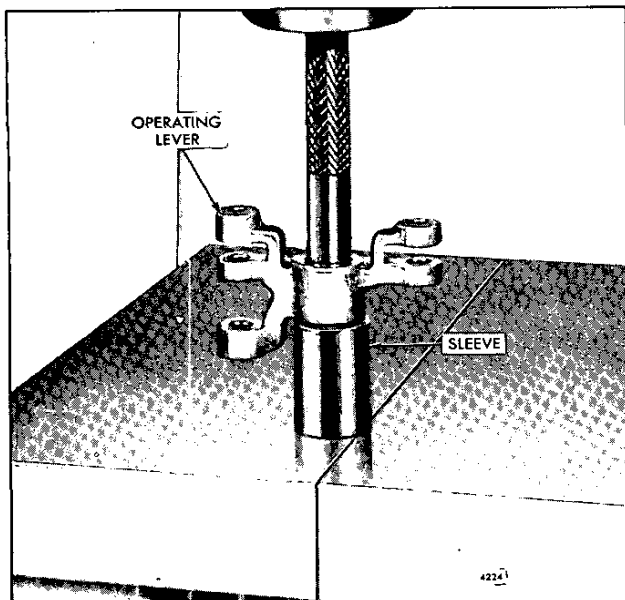

Fig. 7 - Removing Control Link Lever Bearings
11. If the bearings require replacement, support the control link lever on a sleeve placed on the bed of an arbor press. Then press the bearings out of the lever with bearing remover J 8985 (Fig. 7).